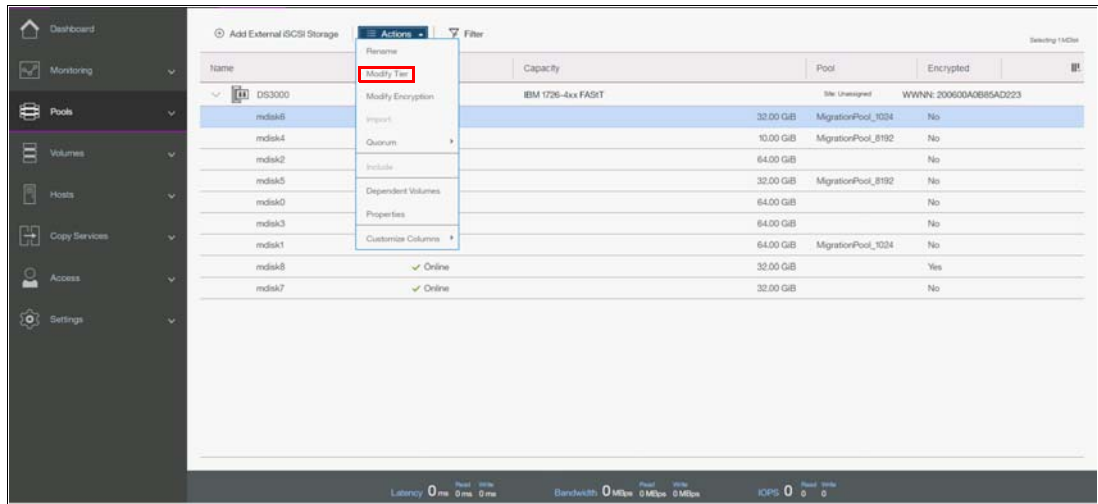

Figure 11-4 Modify Tier option
- Select the MDisks to assign and either use the Actions drop-down menu or right-click and select **Modify Tier**, as shown in Figure 11-4 on page 613.